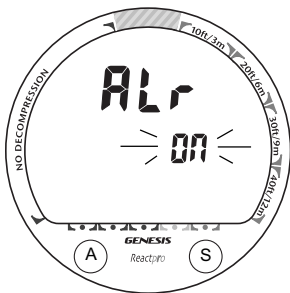

Fig. 17 - Set Units
- While viewing the Set 1 screen, press/release the A (left) button 4 times (< 2 sec each time), the Set FO2 Default screen appears with the Set Point flashing (Fig. 17).